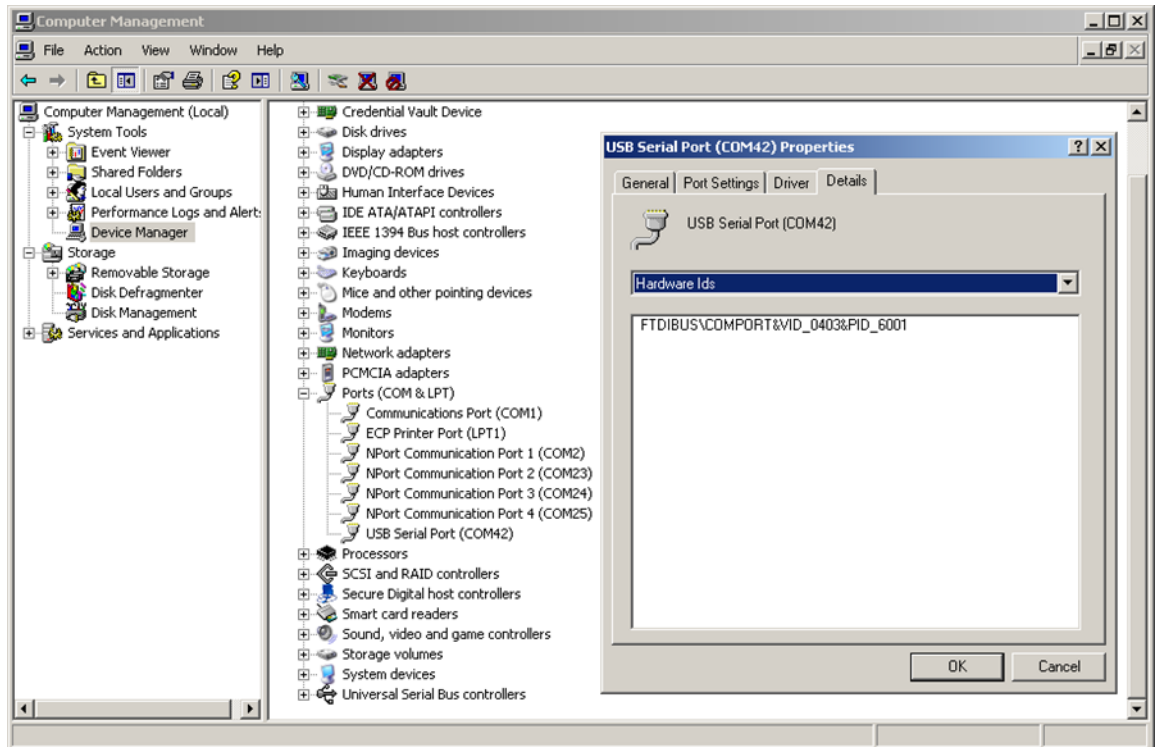

Figure D-4: AA-170 - USB serial port
- Set the COM port assigned to the AA-170 as shown in Figure D-4.